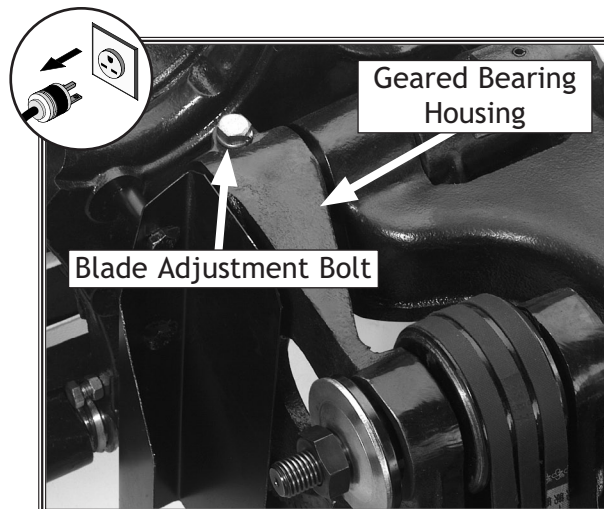

Figure 65. Lower wheel adjustment control.
Finally, if the above adjustments do not resolve the blade alignment situation, you need to adjust the geared bearing housing shown in **Figure 65**.
1. Get another person to help you remove the table and wings, and then loosen the blade adjustment bolt shown in **Figure 65**.